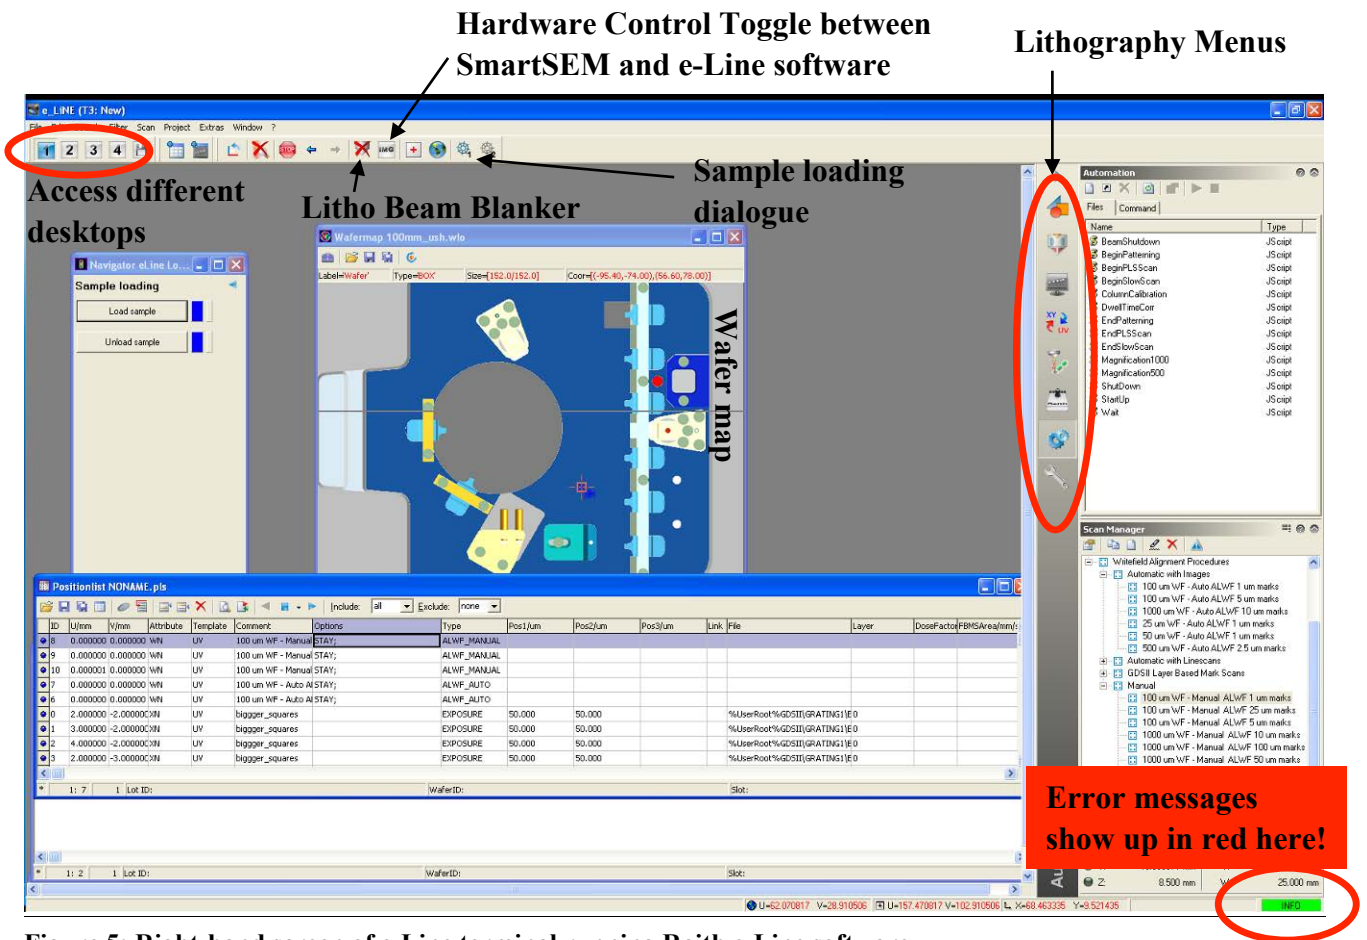

Figure 5: Right-hand screen of e-Line terminal running Raith e-Line software.
Figure 5 shows the basic functionality of the Raith e-Line software. Of course there is much more, but this should point you to the important parts.
4. To initiate the load procedure, go to the "Sample loading" screen, available via the left-most cog-wheel icon in the menu bar of the Raith e-Line software (see Figure 5):
your sample later, it is possible to save these parameters and load them using the second lithography menu (Figure 5).
10. Make sure the beam is not blanked. There are two beam-blankers: one controlled by the Smart SEM software, the other by the Raith e-Line software. At this stage usually the e-line-software blanker is activated. Deactivate it by clicking the button in the icon bar (see Figure 5).
4. Back in the e-Line software go to the 'Beam current' tab in the dose lithography menu (5th lithography menu from the top in Figure 5). Choose <current position> in the drop-down menu. Then click 'Measure'. Repeat a few times to see if current is stable. It should not change more than by 0.1 pA. This measurement will be later used to calculate the dwell-time of the beam during the exposure.